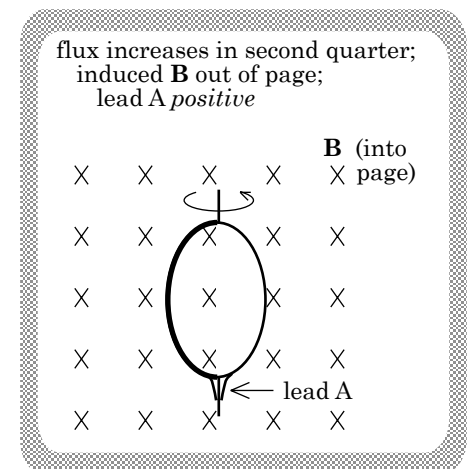

FIGURE 17.18
b.) The coil rotates through the *no-external-flux* position and into the second quarter of its cycle (see Figure 17.18). In this part of its motion, the external flux is increasing. The induced \mathbf{B} -field required to oppose this increase must be out of the page, which requires an induced current that is counterclockwise (relative to where we are sitting). As such, *lead A* must again be the positive side of the coil.